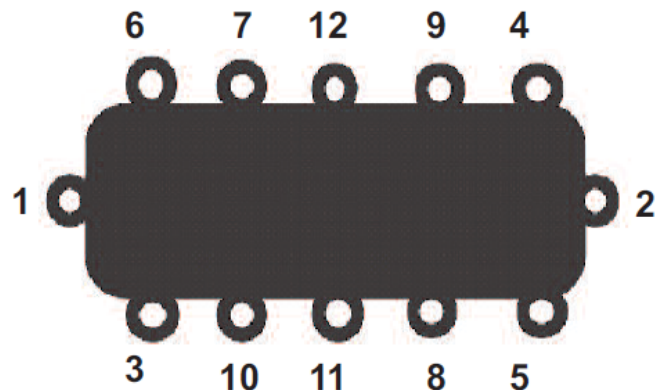

Figure 3. Torque Tightening Pattern
13. Re-Install the twelve (12) 7/16" hex head nuts that secure the header to the tube sheet.
14. Follow the torque pattern (and tightening specifications) when tightening the nuts onto the stud bolts (See **Figure 3**).
NOTE: Bolts shall be tightened following the sequence shown in Figure 3, in ascending numerical order. Apply a torque of 7 ft-lb (± 0.5 ft-lb). For field service conditions where a torque wrench is not available, tighten the nuts to a firm hand-tight condition, then apply an additional 1/2 turn using a standard wrench.